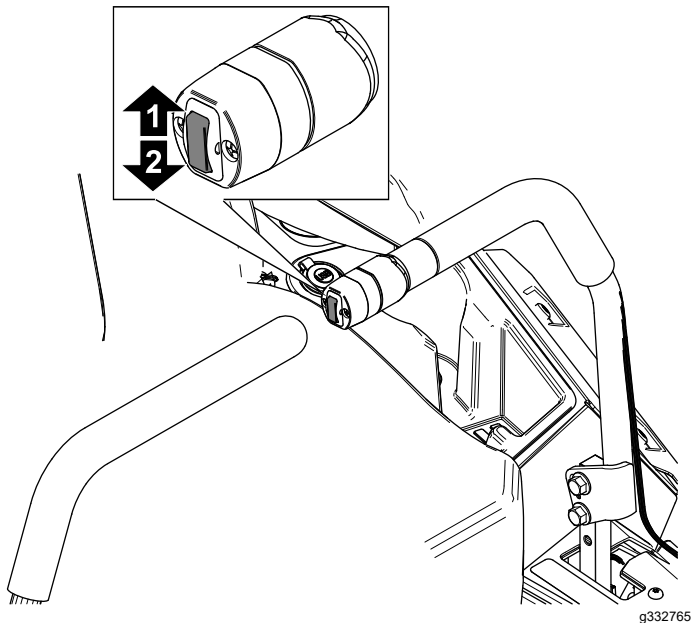

Figure 21
1. Push up on the deck-lift switch (Figure 21).